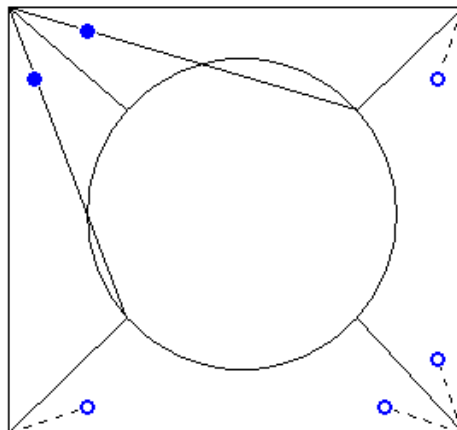

Figure 2.11
- Click a solid control to remove a connection; the line reverts to a dashed line with an open dot control as shown in Figure 2.11.